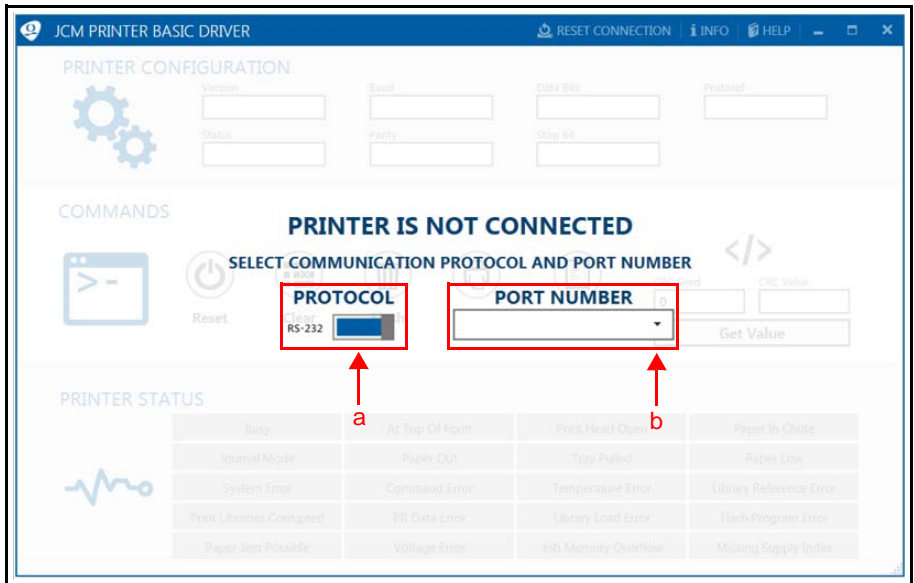

Figure 10 JCM Printer Basic Driver Opening Screen
4. From the PC Desktop, double-click on the JCM Printer Basic Driver icon. The JCM Printer Basic Driver Opening Screen is displayed (Figure 10).
5. Click to select the Communication Protocol - either RS-232 or Netplex Communications (Figure 10 a).
6. Click to select the COM Port Number where the GEN5 Printer is connected (Figure 10 b).